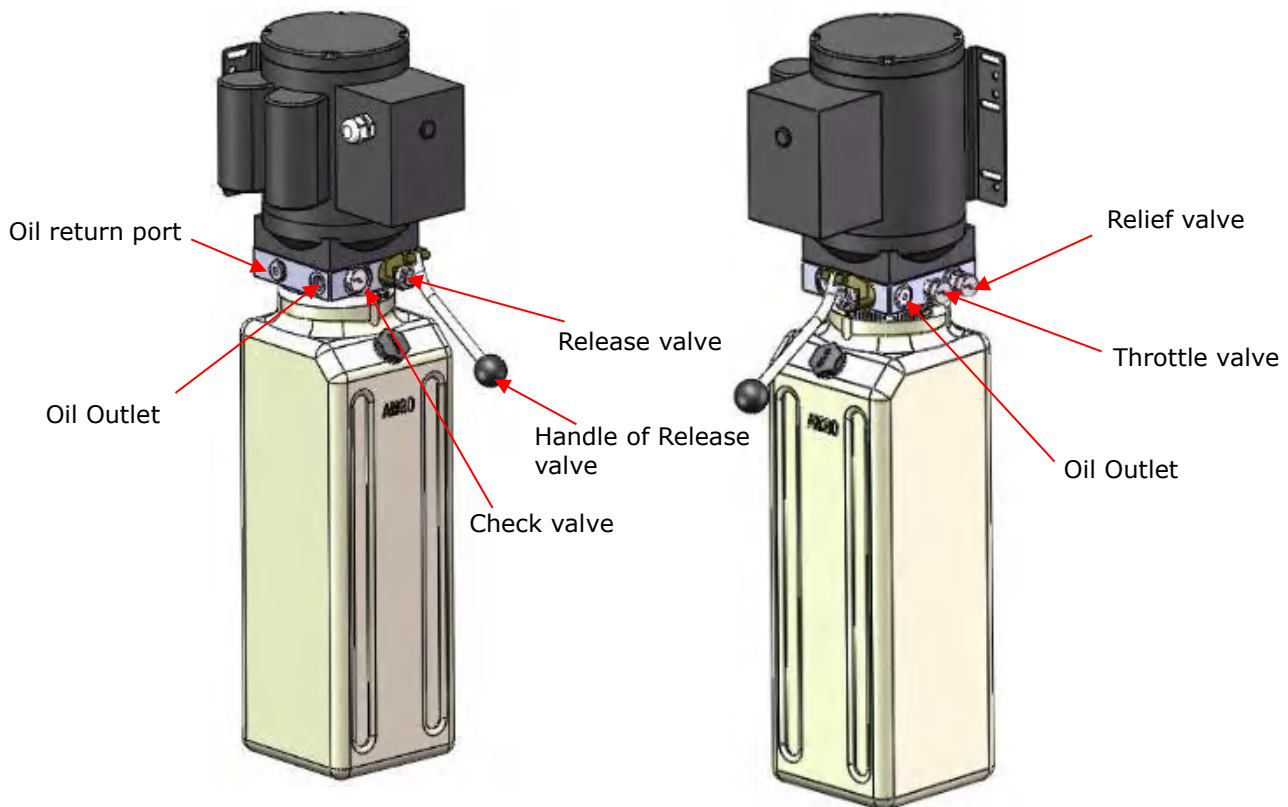

Fig. 52
4.5 Illustration of hydraulic valve for hydraulic power unit (See Fig. 52)